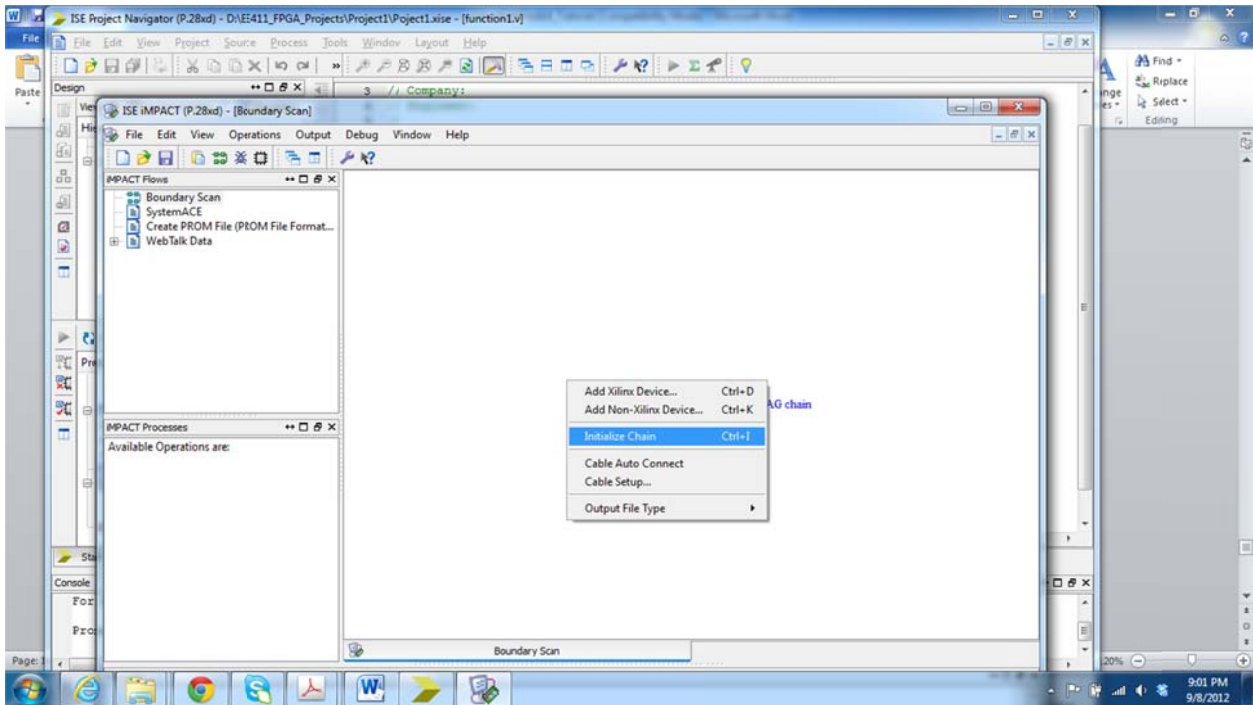

Figure 14B
15. Now, double click on **Boundary Scan** and then right click and choose **Initialize Chain** as shown in Figure 14B.